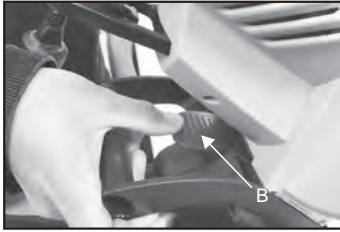

Fig. 3B
1. Press the spring lever (B) to release the bag. (Fig. 3B)